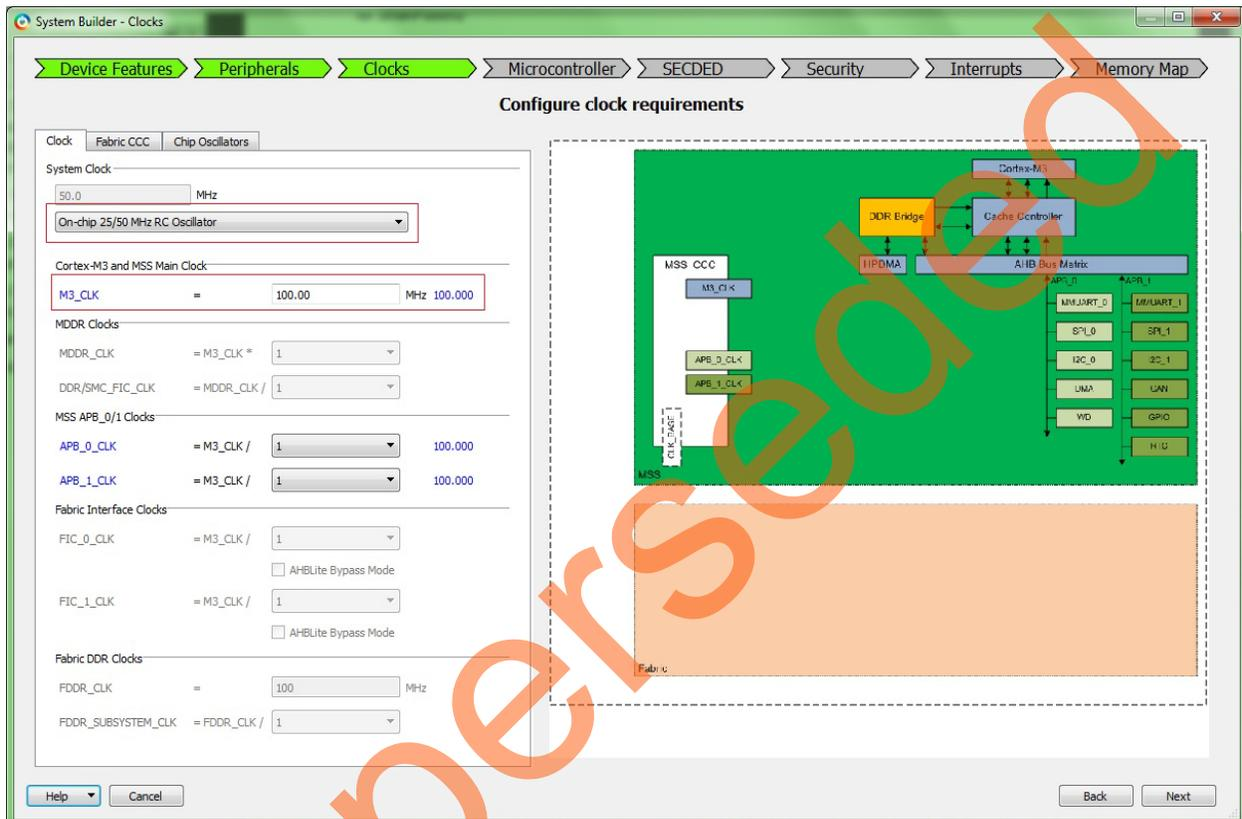

Figure 10 • System Builder – Clock Page
11. Click **Next**. This opens **System Builder - Clocks** page as shown in Figure 10.
12. In the **System Builder - Clocks** page (Refer to Figure 10):